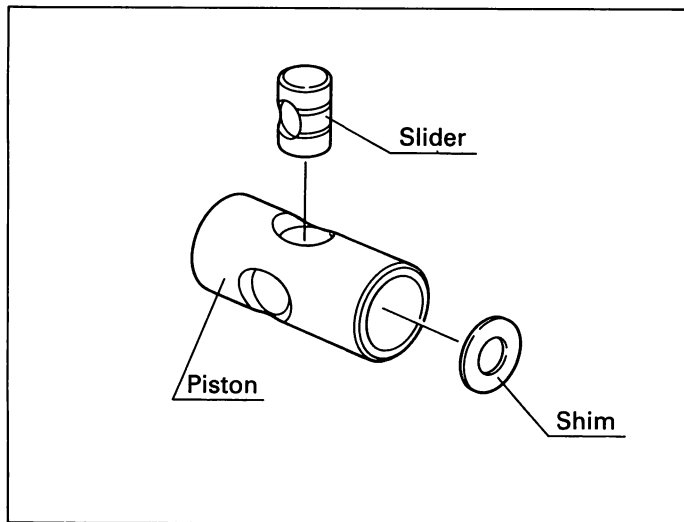

Fig. 49 Timer piston reassembly
1. Apply grease to the slider (32) and insert it together with the shim (33) into the timer piston (31). (Fig. 49)